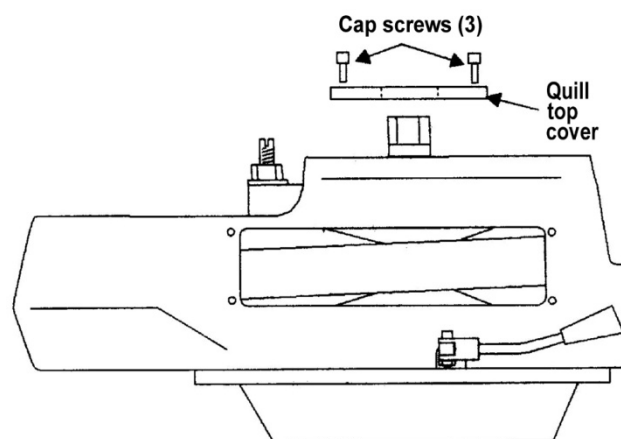

Figure 31
Refer to Figures 31 and 32, and *Head Assembly* in the *Parts* section.
2. Remove *Quill Top Cover* by removing three cap screws (Figure 31).